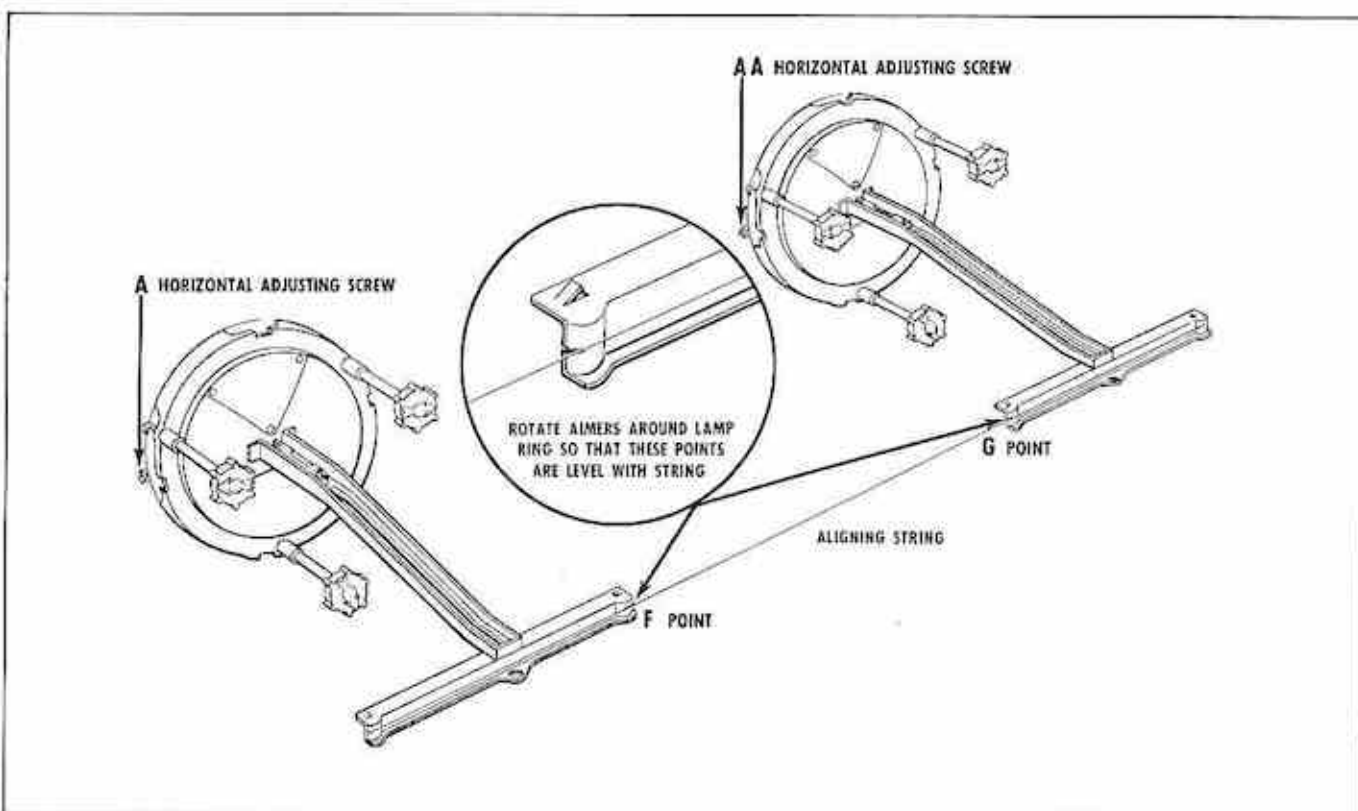

Fig. 113 Horizontal Adjustment
- a. Adjust left headlamp by turning horizontal adjusting screw AA in or out to make string first touch point G (Fig. 113).